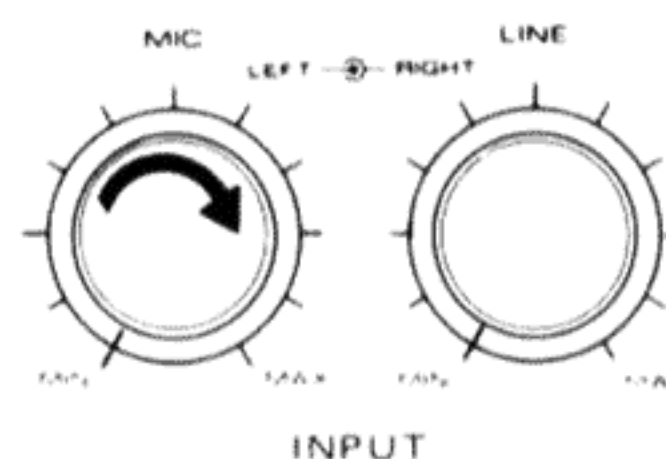

Fig. 43
5. Adjust the recording level with the MIC level controls (Fig. 43).